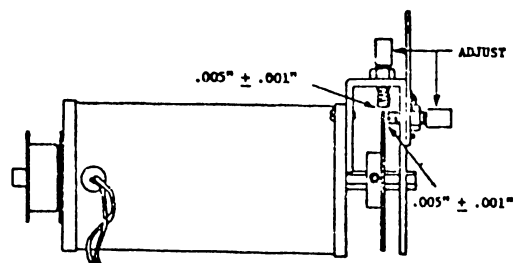

FIGURE 5-17 MAGNETIC PICKUP ADJUSTMENT
- 3) The distance between the edge/face of the timing disk and the pickups should be consistent along the circumference of the disk with a gap of $.005'' \pm .001''$ ($.127 \text{ mm} \pm .025 \text{ mm}$) (Figure 5-17).